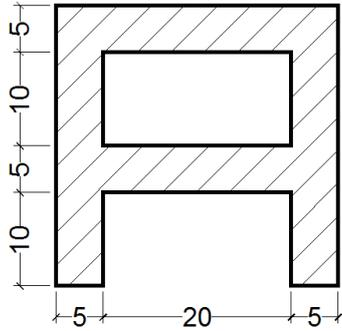

Fig. 4
- (c) Find moment of inertia about horizontal centroidal axis of a shaded area shown in fig. 4 **07**